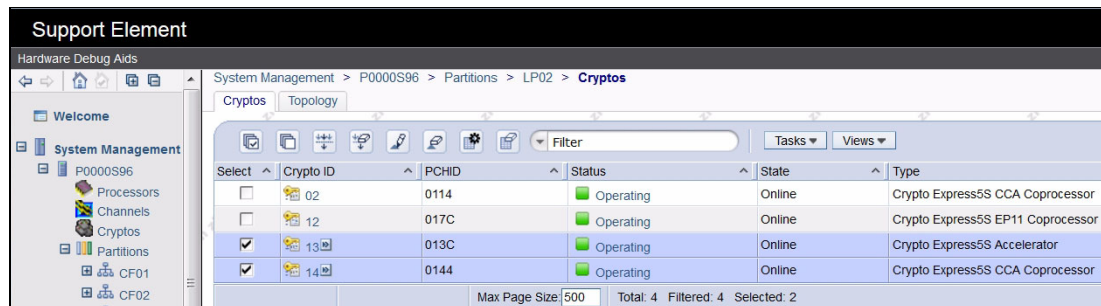

Figure 10-26 SE Crypto Service Operations: Online
- You can view the contents of the Cryptos window of the logical partition to confirm that the cryptographic channels are now in the **Operating** status (Figure 10-26).